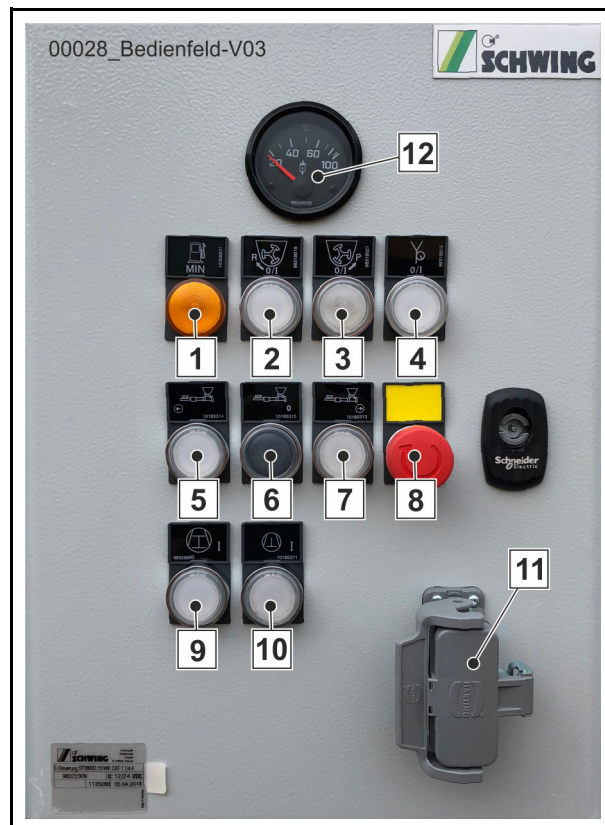

Fig. 35
If the ignition is switched on, the warning light (1) (**Fig. 35**) turns on as soon as there are approx. 38 l remaining.